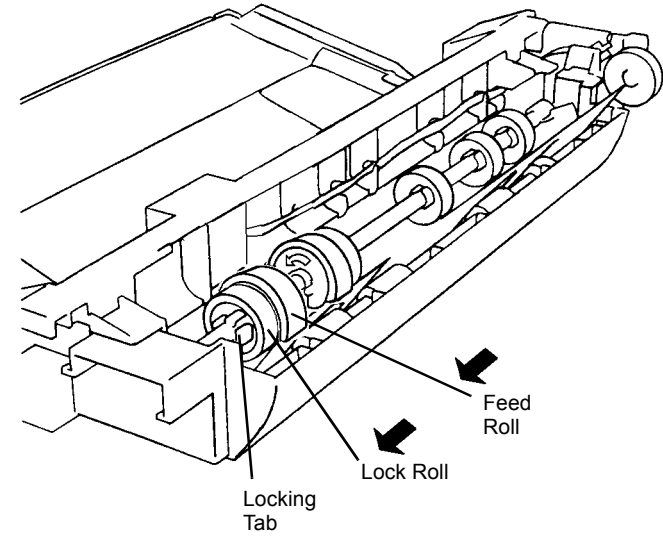

Figure 2 Removing Feed Roll
7. Remove Feed Roll (Figure 2).